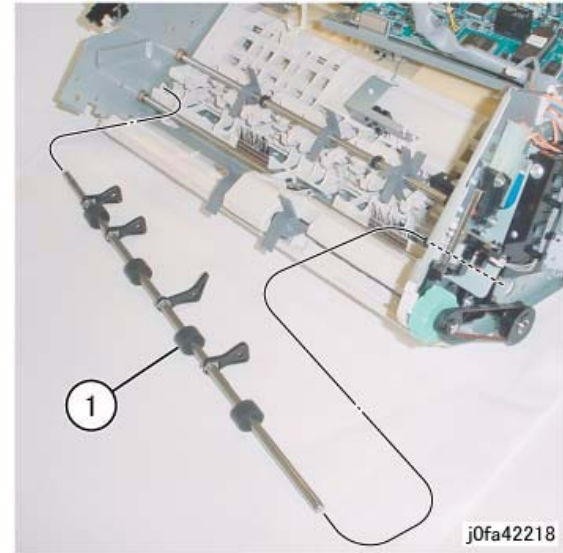

Figure 4 Removing the Exit Roll Assembly (j0fa42218)
7. Remove the Exit Roll Assembly. (Figure 4)